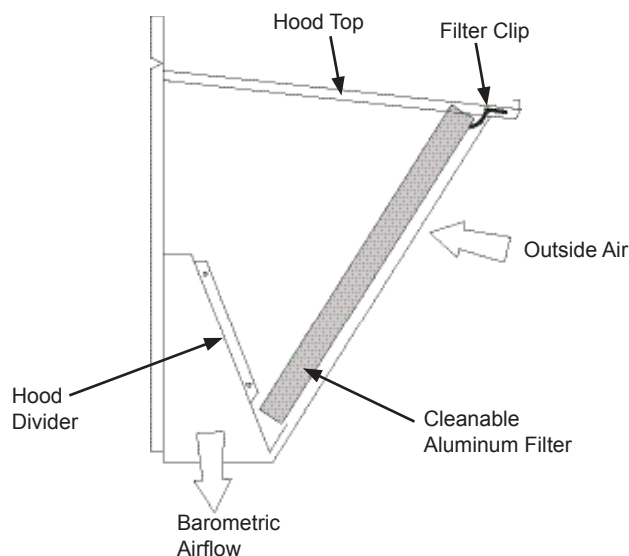

Fig. 5 - Filter Installation
15. Install the economizer hood filter(s) by opening the filter clips which are located underneath the hood top. Insert the aluminum filter(s) into the bottom filter rack (hood divider). Push the filter into position past the open filter clips. Close the filter clips to lock the filter into place. (See Fig. 5.)